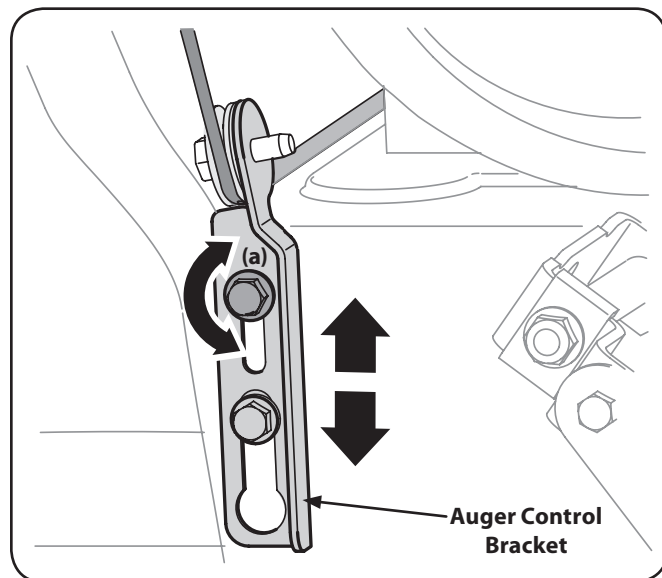

Figure 3-14
4. Allow the auger to remain engaged for approximately ten (10) seconds before releasing the auger control. Repeat this several times.
7. To readjust the auger control cable, loosen the upper hex screw (a) on the auger cable bracket. See Figure 3-14.